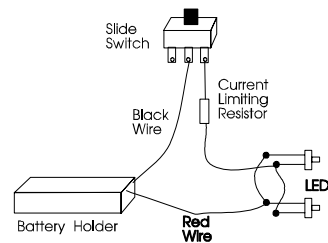

Figure 1
- See Figure 1 for next steps.